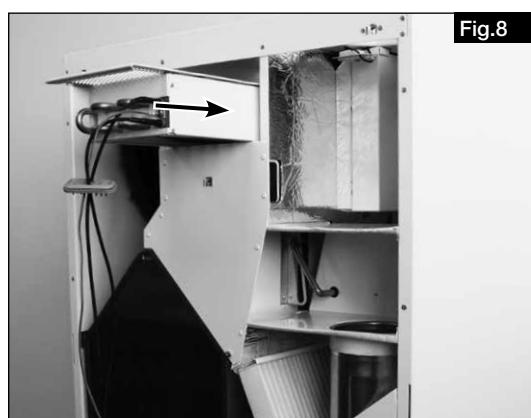

Fig.8
5. Insert preheater with grille upwards into the intake air shaft (see Fig. 8).